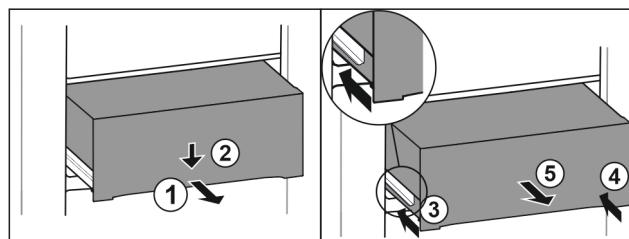

Fig. 117
- Pull out the drawer halfway. Fig. 117 (1)
- Press down the drawer on the front. Fig. 117 (2)
- Push in the left rail approximately 2 cm (13/16 in). Fig. 117 (3)
- Push in the right rail approximately 2 cm (13/16 in). Fig. 117 (4)
- Remove drawer to the front. Fig. 117 (5)